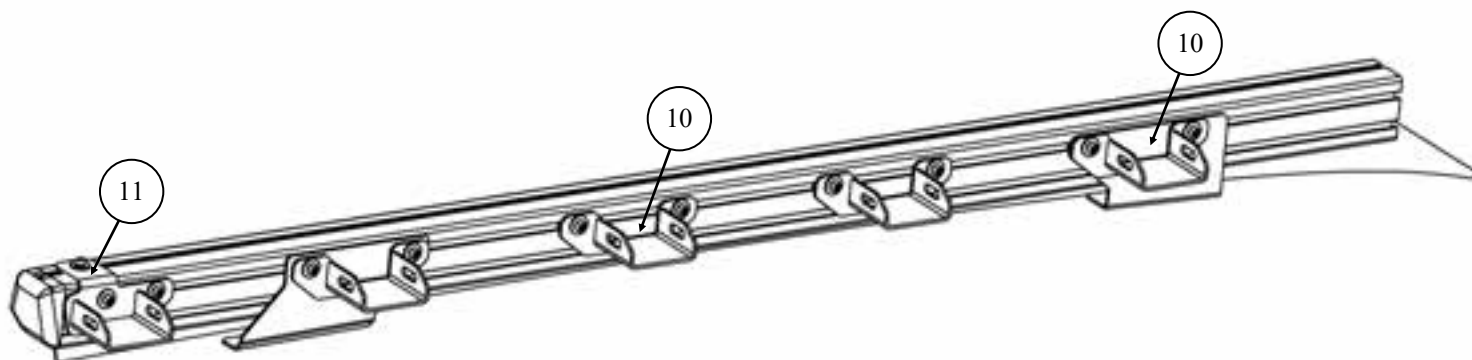

Figure 9
7. Repeat steps 4-6 on the passenger side using (**items 2, 7, and 9**).
8. Install (2) Cross Rail Brackets (**item 10**) and the Driver Side Rear Cross Rail Bracket (**item 11**) on the Driver Side Rack Rail using the M6 hardware (**items 15, 17-19**). See **Figure 9**.
9. Repeat step 8 on the passenger side using items 10 and 12.